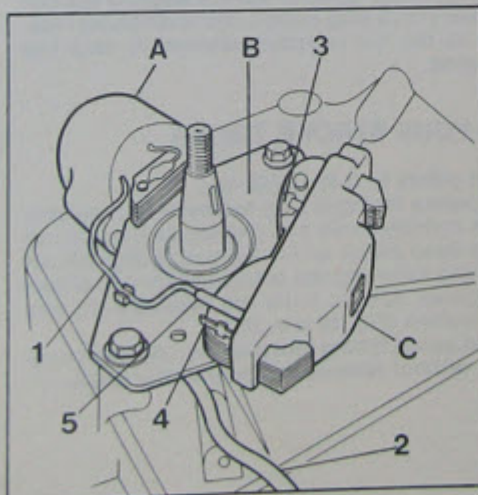

Fig. 33 1 = Low tension (red lead)
- Unsolder the earth terminal (3) (see Fig. 33) from the lamination core. Pull solid state assy (C) from the lamination core.